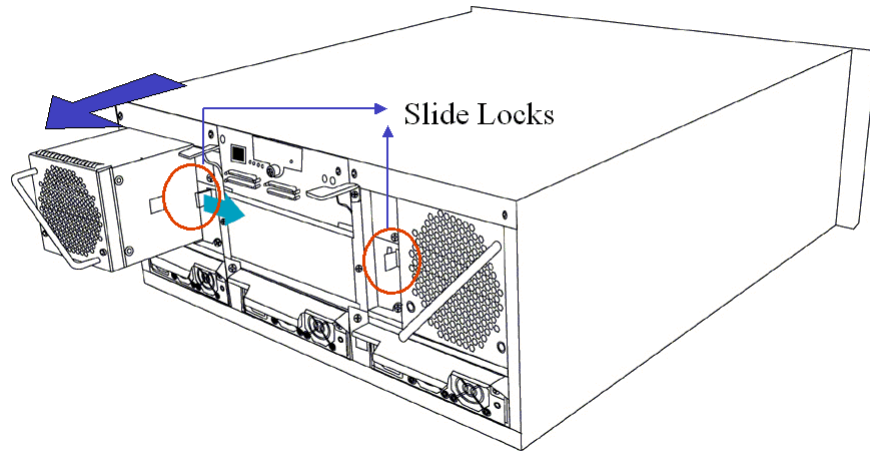

Figure 5-9: Removing the Cooling Module Retention Screws
- Step 1. **Remove a cooling module** by pressing the slide lock on the side of the module towards the center of the chassis and then pulling the module out of the chassis. (See *Figure 5-9*)